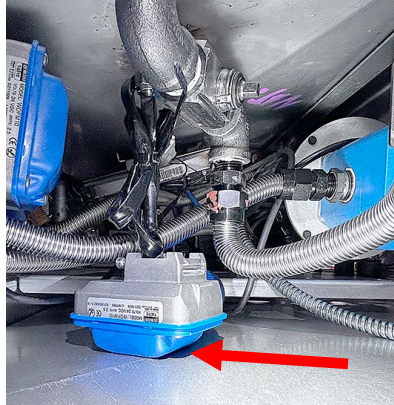

Figure 11
13. Route the actuator under all the flexlines (see Figure 11).